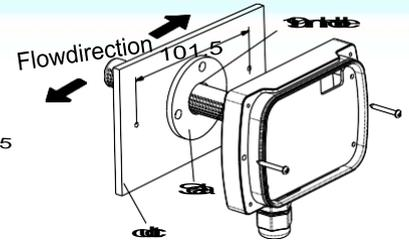

Fig.4
2. Install the enclosure directly on the duct as Fig.4. Drill a $\phi 19$ mm hole on the duct, insert the probe into with the seal ring, and screw the enclosure on the duct directly.